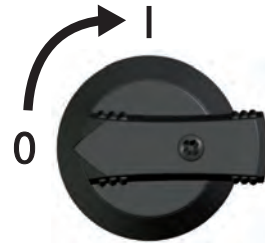

Figure 42
- ▶ Set the DC circuit breaker on the inverter to position I (Figure 42). After testing via the internal MSD (approx. 2 minutes), the power fed into the grid can be shown on the display (assuming that sunlight is present).